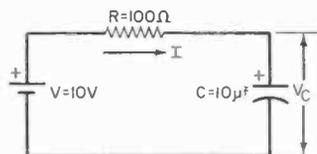

Fig. 4
**A. RC Circuits.** To a direct current, a capacitor acts *initially* (time  $t = 0$ ) like a *short circuit*. (1) The product of  $R$  and  $C$  is called the *time constant*,  $T$ , of the circuit:  $T = RC$ . (2) After a time of approximately  $5T$ , the circuit is considered to be in *steady state*, and the capacitor acts like an *open circuit*. (3) Steady state is symbolized by  $t = \infty$ .
*Ex. 1.* For the circuit in Fig. 4, determine  $I$  at (a)  $t = 0$ ,  $I(0)$  and (b) in steady state,  $I(\infty)$ . (c) What is the time constant of the circuit? *Sol.* (a)  $I(0) = 10/100 = 0.1$  A. (b)  $I(\infty) = 0$ . (c)  $T = RC = 100 \times 10 \times 10^{-6} = 10^{-3}$  s = 1 ms.
*Ex. 2.* For the circuit in Fig. 4, find the voltage across the capacitor,  $V_c$ , at (a)  $t = 0$  and (b)  $t = \infty$ . *Sol.* (a) Because the capacitor acts like a short circuit at  $t = 0$ ,  $V_c(0) = 0$ . (b) Because the capacitor acts like an open circuit in steady state,  $V_c(\infty) = 10$  V.
**B. Functions of Time.** For times between  $t = 0$  and  $t = \infty$ , the current and voltage as functions of time for the circuit in Fig. 4 may be expressed by: